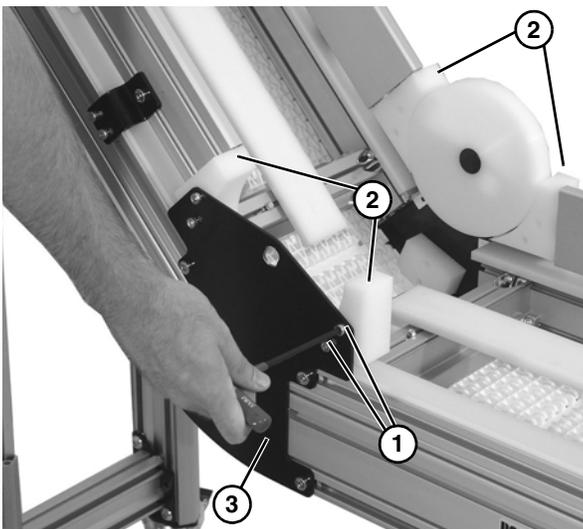

Figure 59
2. Remove two socket cap screws (**Figure 59, item 1**) for all four hold down guards (**Figure 59, item 2**) on side of lower knuckle assembly (**Figure 59, item 3**).